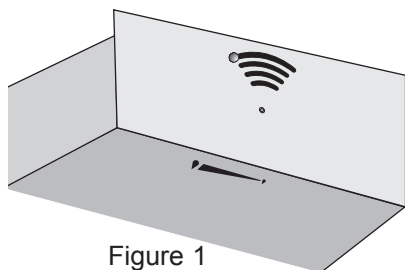
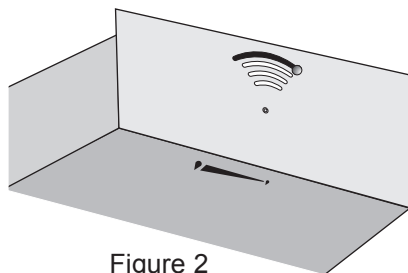

Figure 1
Figure 2
The humidity controller is located on the inside of the warmer drawer and used to control humidity in the warmer drawer. The humidity control knob can be set at any position between Moist (Figure 1) and Crispy (Figure 2) position. To set the humidity controller, slide the humidity control knob to the desired location.
3. Locate glide lever on each side of drawer, pull up on the right glide lever and push down on the left glide lever (See Figure 1).
1. **Pull the plastic slider to the front** of the glide slots on each side of the drawer cavity (See Figure 2).